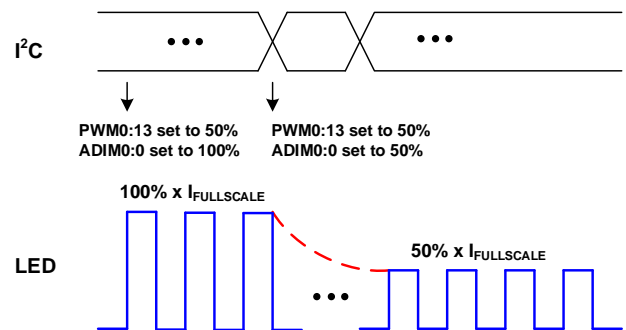

Figure 9: PWM Dimming via I²C Interface
4. **PWM Dimming Mode via PWM Register:** This mode is activated if MOD2:0 = 011. In this mode, the LED current is chopped as a PWM waveform. The PWM frequency is set by the internal FPWM0:3 bits, and the duty cycle is set by the PWM0:13 bits. The current amplitude can be changed by the internal ADIM9:0 10-bit value (see Figure 9).